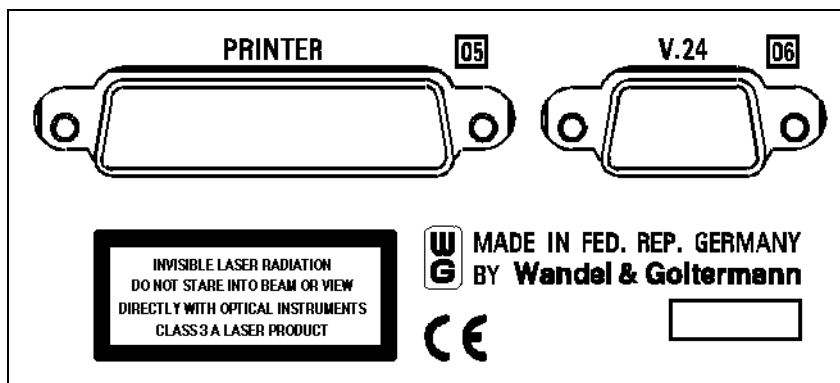

Fig. M-7 Laser safety warning label on the front panel of the ANT-20SE
9. Affix the laser safety warning label for a Class 3A laser product (see Fig. M-7).
2. Remove the pre-assembled cover plate by undoing the six screws (C).
4. Bolt the back panel of the interface module to the chassis with the eight screws (D).
5. Bolt the interface module to the chassis pan with the seven countersunk screws (B).
6. Fit the cover plate using the six screws (C).
8. Bolt on the lower case shell with the four screws (A).
9. Affix the laser safety label for Class 3A (see Fig. M-7).
We recommend that the laser safety warning label is affixed to the front panel of the ANT-20SE below socket [05] (see Fig. M-7).